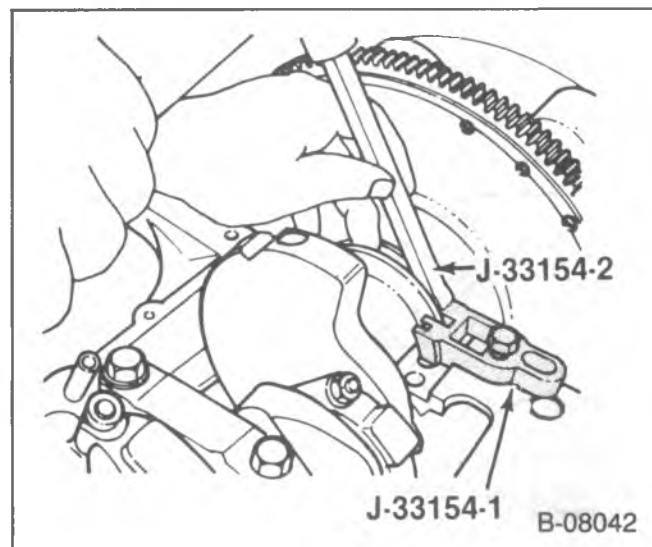

Figure 23—Installing the Rope Seal Pieces Rear Main Bearing Cap
- Install J-33154-1 onto the cylinder block (figure 23).
- Use J-33154-2 to work the short pieces of seal cut previously onto the guide tool and into the seal groove in the block (figure 23). It may help to use engine oil on the seal pieces. The tools have been machined to provide a built-in stop. Use this procedure for both sides.